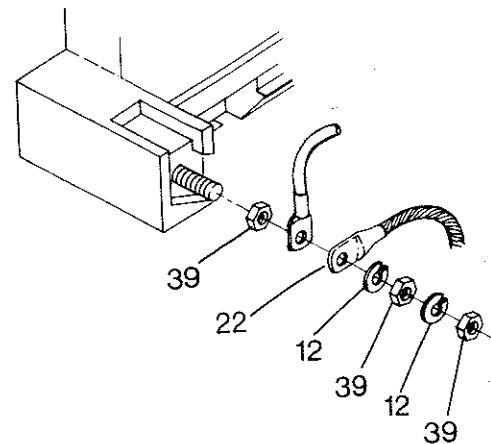

Figure 5
3. Remove the arc chute wire by removing the bottom end of the shunt (22), two lockwashers and two nuts which secure arc chute wire to contactor base.
4. Remove the arc chute by removing the pan head screw (5), washer, lockwasher and nut.
6. Reconnect the arc chute wire and the bottom end of the shunt (22) to the contactor base using the lockwashers and nuts (Fig. 5).
1. With all power removed, disconnect the bottom end of the shunt (22) by removing the two lockwashers and the two hex nuts.
4. Reconnect the arc chute wire and the bottom end of the shunt (22) to the contactor base using the lockwashers and nuts (Fig. 5).